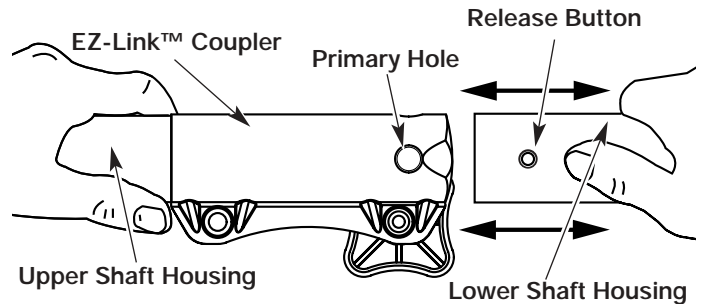

Figure 10
3. While firmly holding the upper shaft housing, pull the cutting attachment or add-on straight out of the EZ-Link™ coupler. See Figure 10.
2. While firmly holding the add-on, push it straight into the EZ-Link™ coupler. See Figure 10.